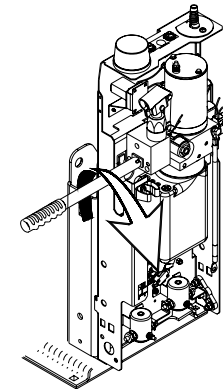

FIGURE 2-13: CLOSE RELEASE VALVE
- d. Refer to **Figure 2-13**. When platform reaches level of interior floor turn valve clockwise to close; do not over-tighten valve. Do not lower platform below vehicle floor level. The rear edge of bridgeplate must rest flat on vehicle floor.